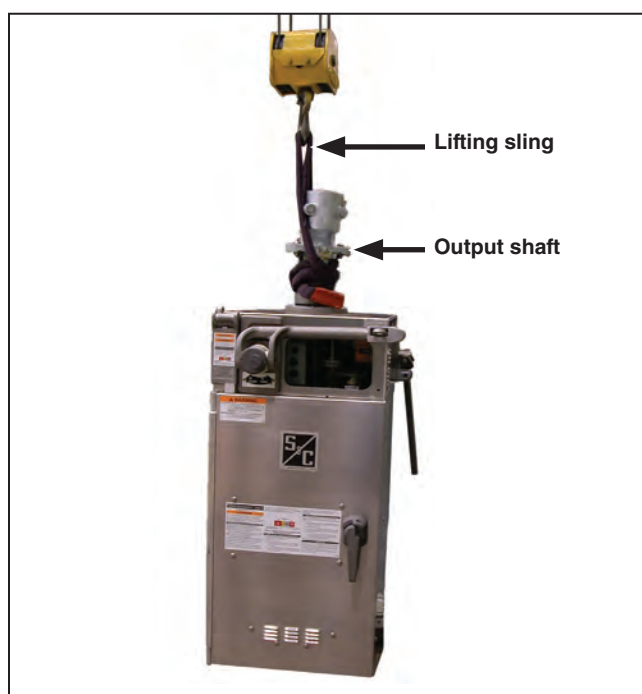

Figure 33. Attach lifting sling to output shaft.
- STEP 2.** Unbolt the Mark VI CS-1A Switch Operator from its shipping skid. Attach lifting slings around the output shaft of the Mark VI CS-1A Switch Operator. See Figure 33. Lift the operator into place with the operator mounting flange overlapping the operator mounting bracket.